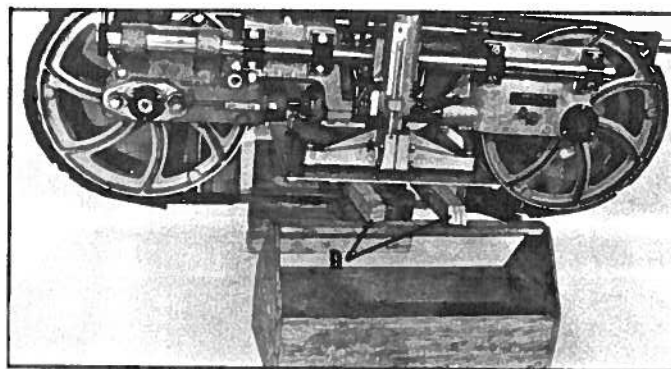

Fig 28
3. Position two pieces of wood, (D) directly underneath the platen, as shown in Fig. 28. Place the saw with the two pieces of wood on a supporting surface so that the weight of the machine is on the platen, as shown.